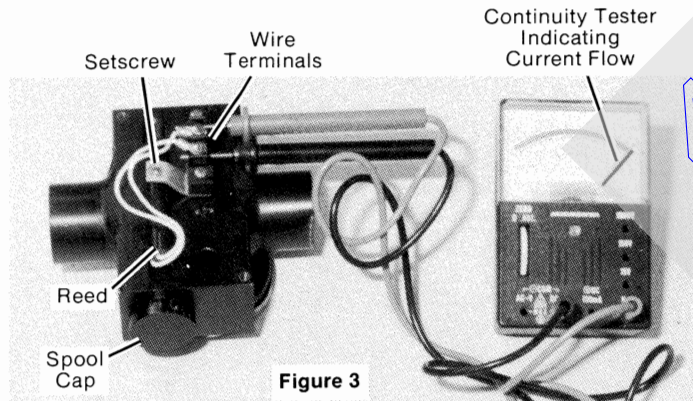

Figure 3
2. Connect the continuity tester to the terminals in the flow switch (Figure 3). The tester should show **current flow** (alarm would be ON indicating no oil flow).
NOTE Make sure the reed is installed as shown in (Figure 3). The end of the reed from which the wires come out must be toward the spool cap end of the flow switch.